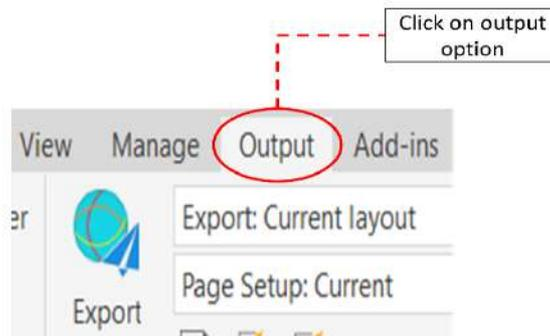

Fig. 5.4: Output option
Step 2: Navigate to the ribbon and Click Output > Plot > Page Setup Manager (refer to Fig. 5.4). This will prompt the Page Setup Manager dialog box to appear on your screen.